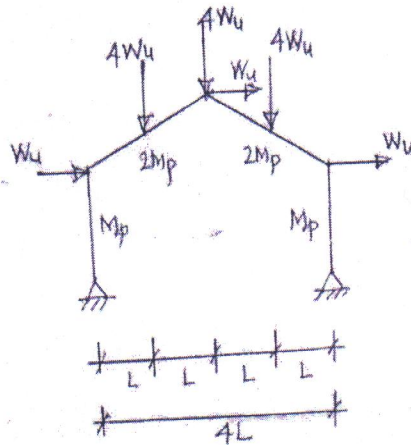

Fig.2
Q.3 (a) State "Theorems of plastic collapse". (3)
(b) A gable frame is supported and subjected to six loads, as shown in Fig.2. The plastic moment capacity of column is  $M_p$  and that of rafter is  $2M_p$ . Obtain the degree of indeterminacy of the frame and decide the critical mechanism for the frame. Show that the collapse load,  $W_u = 4M_p / 15L$ . (14)